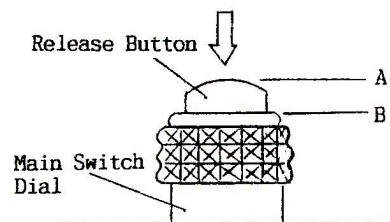

Fig.62
- 2) Press down the Release Button and check to see if the Shutter operates when the Release Button is leveled with the Main Switch Dial (when A and B is in the same level). (See Fig.62)